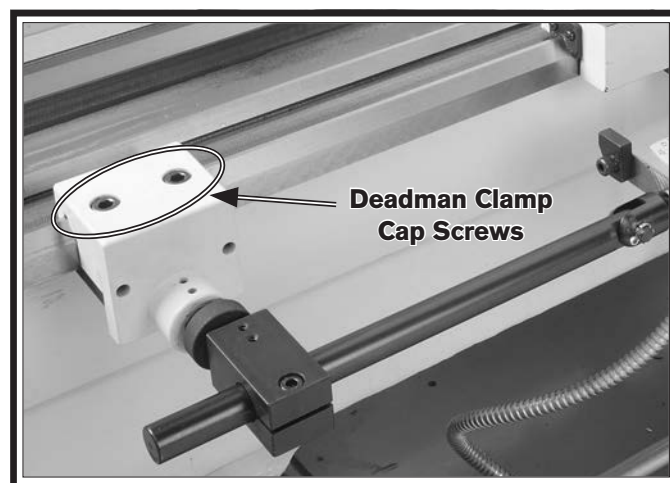

Figure 24. Deadman clamp cap screws.
3. Tighten the deadman clamp cap screws to secure the clamp and taper attachment to the bedway (see **Figure 24**).